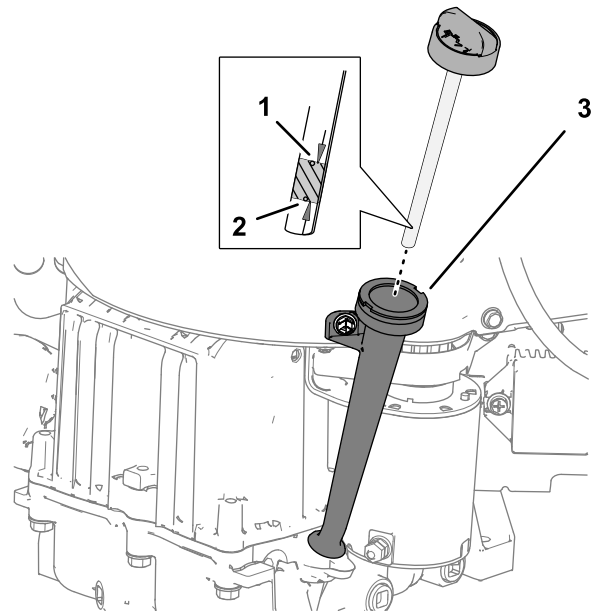

**Figure 70**
4. Remove the dipstick from the engine and wipe the dipstick with a clean rag (Figure 70).
8. Hand tighten the dipstick into the filler neck (Figure 70).